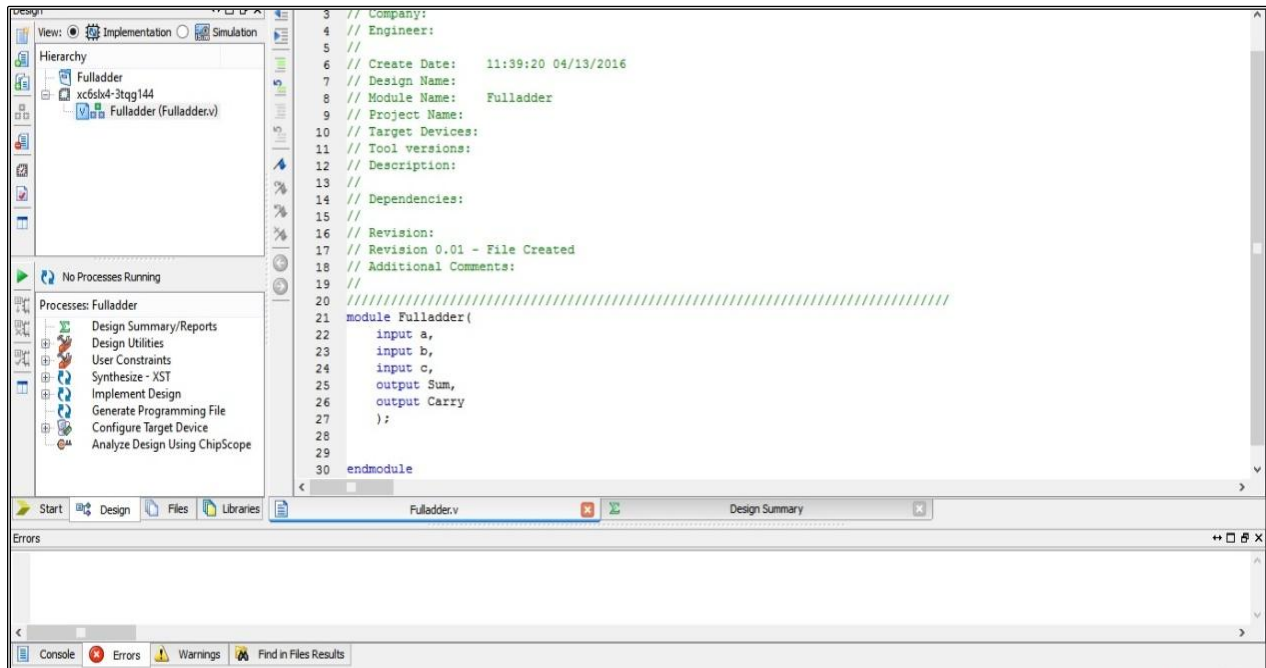

Fig 3.7: Fulladder module structure
8. In the Xilinx ISE interface you can see that the new source file “Fulladder.v” has been added to the project (Hierarchy window). In the ISE Text Editor, the ports are already declared in the Fulladder HDL file, and some of the basic file structure is already in place (Fig 3.7).